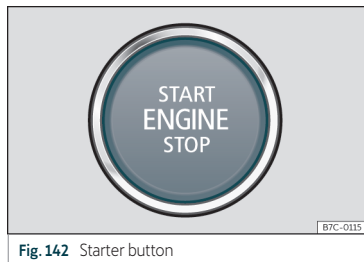

Fig. 142 Starter button
>>> **Fig. 142** until indicator lamp **READY** lights up on the instrument cluster. Do not press the accelerator. Release the ignition and start button when the indicator lamp **READY** lights up on the instrument cluster. The mark on the power display changes from **OFF** to **0**.
- Press the starter button >>> **Fig. 142**; do not press the accelerator. There needs to be a valid key inside the vehicle for the engine to start. After starting the engine, the lighting of the **(START ENGINE STOP)** button remains fixed indicating that the engine is running¹⁾.
- Briefly press the start-up button >>> **Fig. 142**.